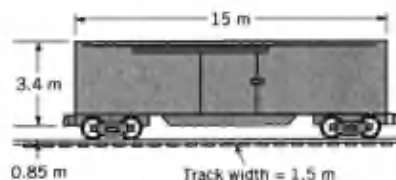

FIGURE P9.12R
9.12R (Drag) Estimate the wind velocity necessary to blow over the 250-kN boxcar shown in Fig. P9.12R.